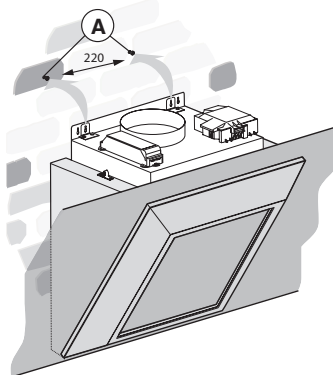

Fig. 7
1. Mark the position of the first two screw holes on the wall, as shown in (Fig7).